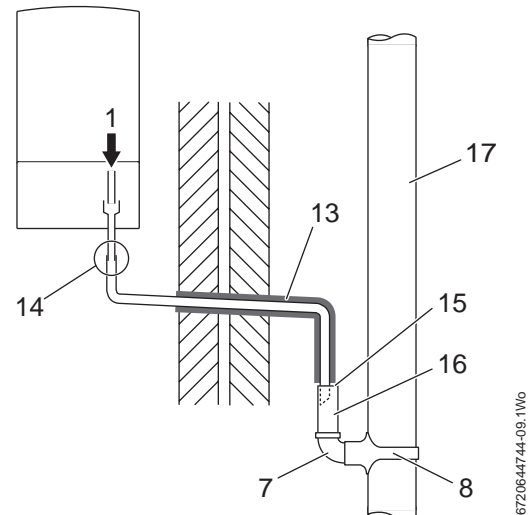

Fig. 13 Disposal into a rainwater down pipe
- Refer to figure 13. When a rain water down pipe, that goes directly into a sewer that carries both rainwater and foul water, is used to dispose of condensate.